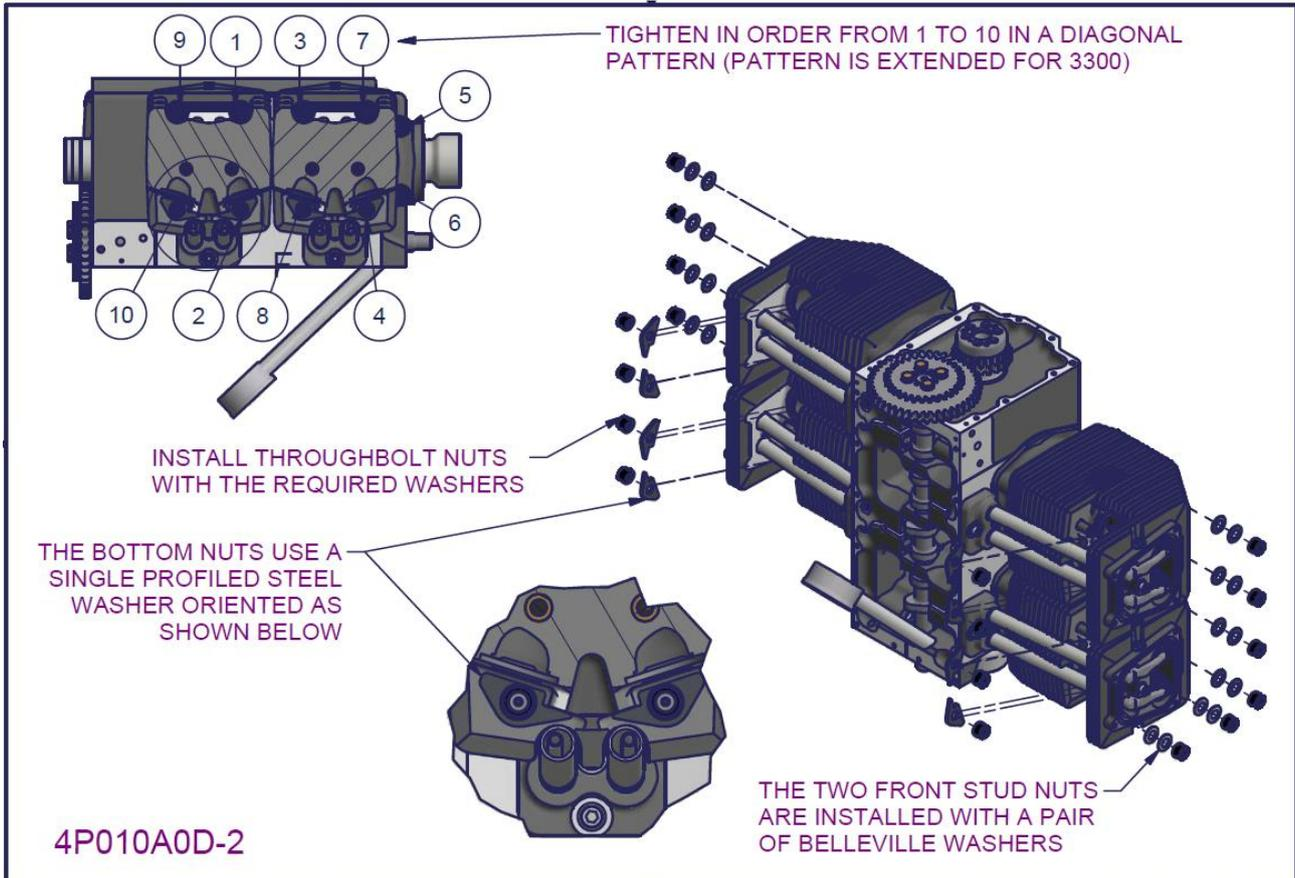

Figure 108 - 2200/3300 Joint engine assembly 4
- Torque all nuts to 20ft.lb using a diagonal tightening pattern such as that shown in Figure 108.